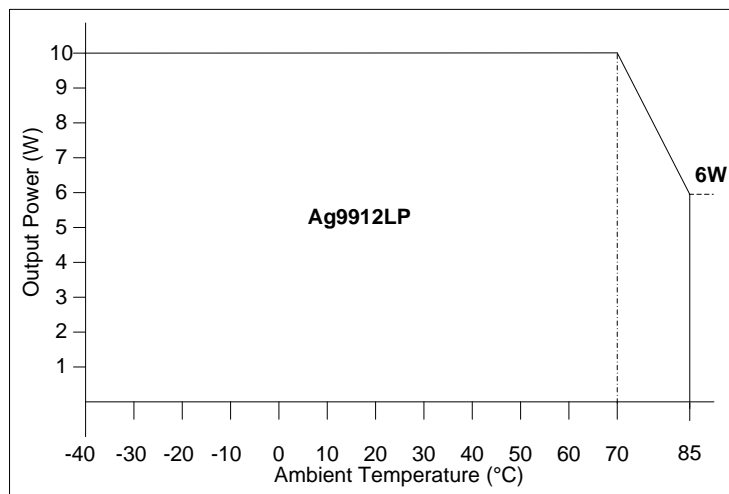

Figure 12: Ag9912LP Operating Profile
To meet the safety isolation requirements of IEEE802.3af section 33.4.1 a Powered Device (PD) must pass the electrical strength test of IEC 60950 sub clause 6.2. This calls for either a) 1500Vac test or b) 1500Vdc impulse test. The Ag9900 is specified to meet the 1500Vdc impulse test. It is also important that the tracks on either side of the isolation barrier have at least a 3mm clearance, see Figures 12 & 14 for more information.